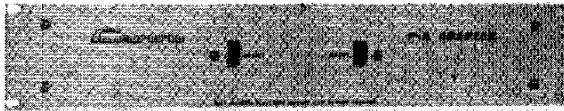

FIGURE 1.
2. Ground No. 1 input (chan. 1) by soldering a $\frac{3}{4}$ " bare wire (as shown in Figure 1) between points A and B.